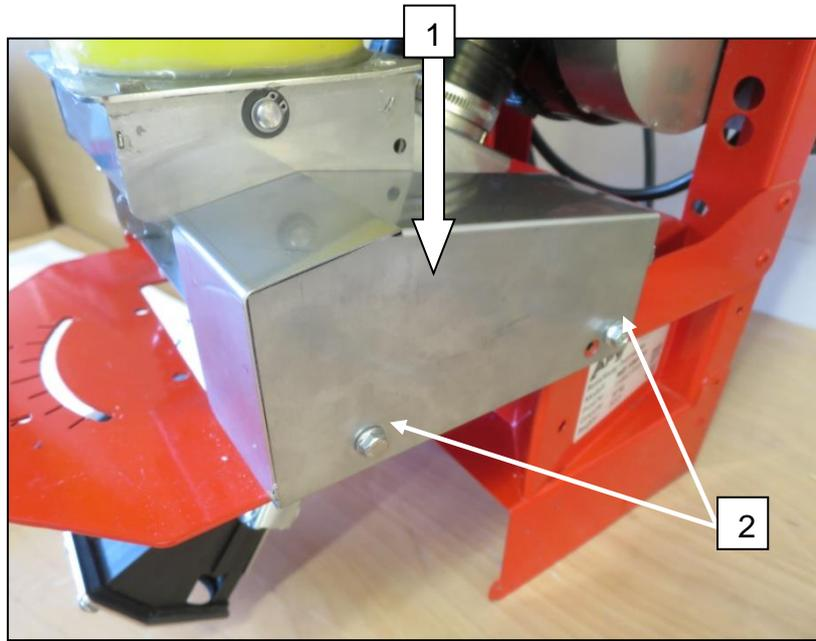

Fig.: 101
- To install the seeding shaft motor cover, position it from top to bottom **1** over the seeding shaft motor and fasten it with the existing bolts **2** (Fig.: 101).